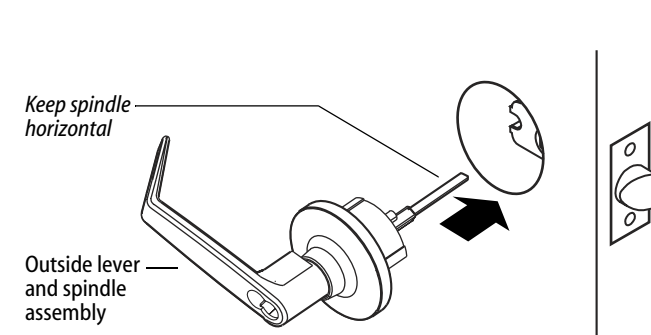

Figure 5 Installing the outside lever and spindle – interchangeable core version shown
- 1 Insert the lever and spindle assembly into the 2 1/8" (63mm) hole as shown in Figure 5.